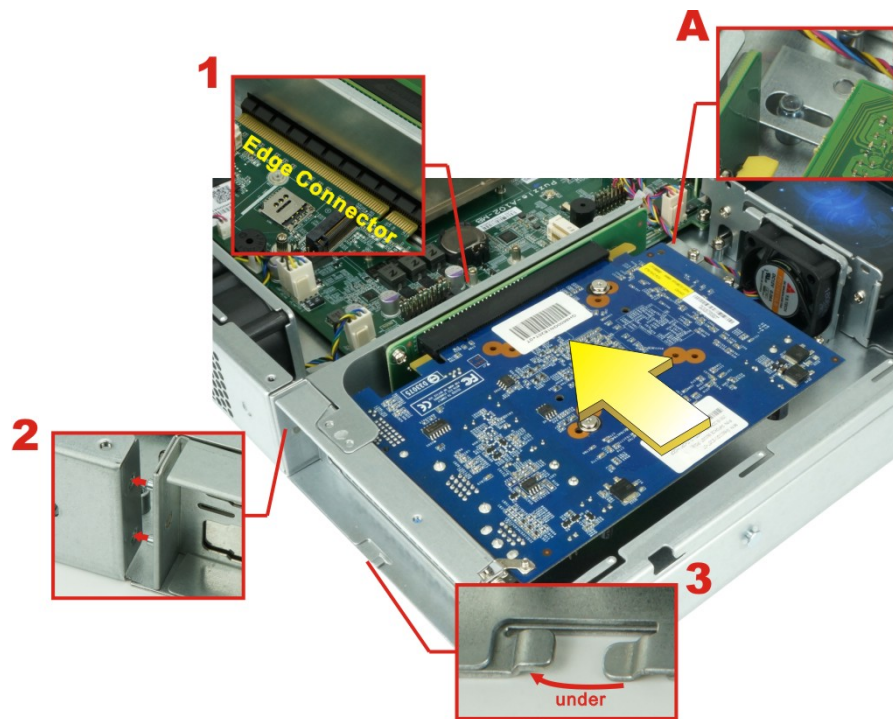

Figure 3-10: Expansion Slot Module Installation
Step 6: Place the expansion slot module back to the original position by hooking the slotted hole into the positioning stud in the chassis (**Figure 3-10 “A”**). Push the connector of the expansion slot module into the edge connector to install it.